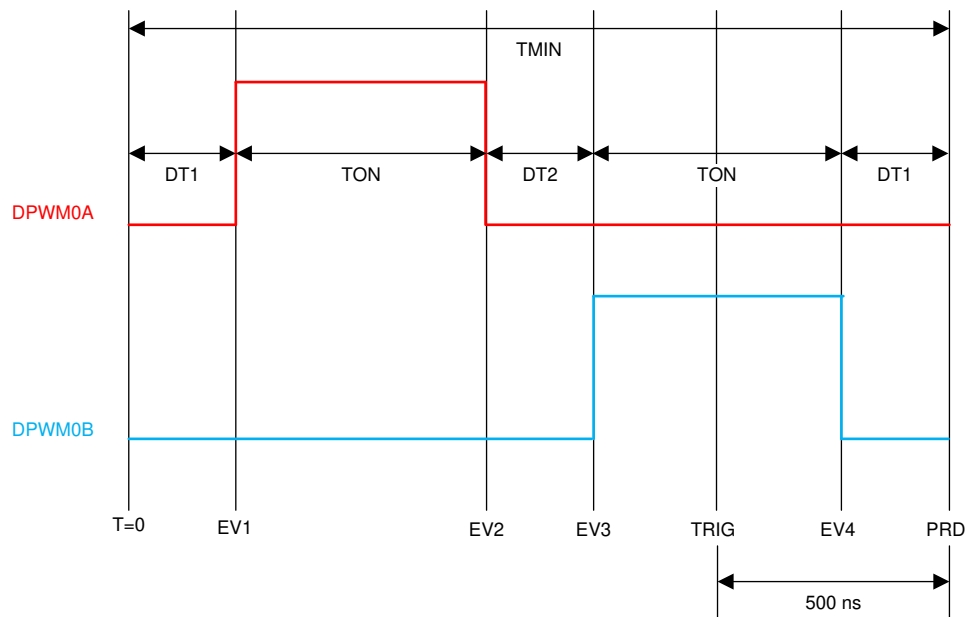

Figure 5. DPWM Representation
- Changed TRIG period to 500 ns in the Description and Solution sections of the DPWM Pulse Extension section, and in Figure 5. 5